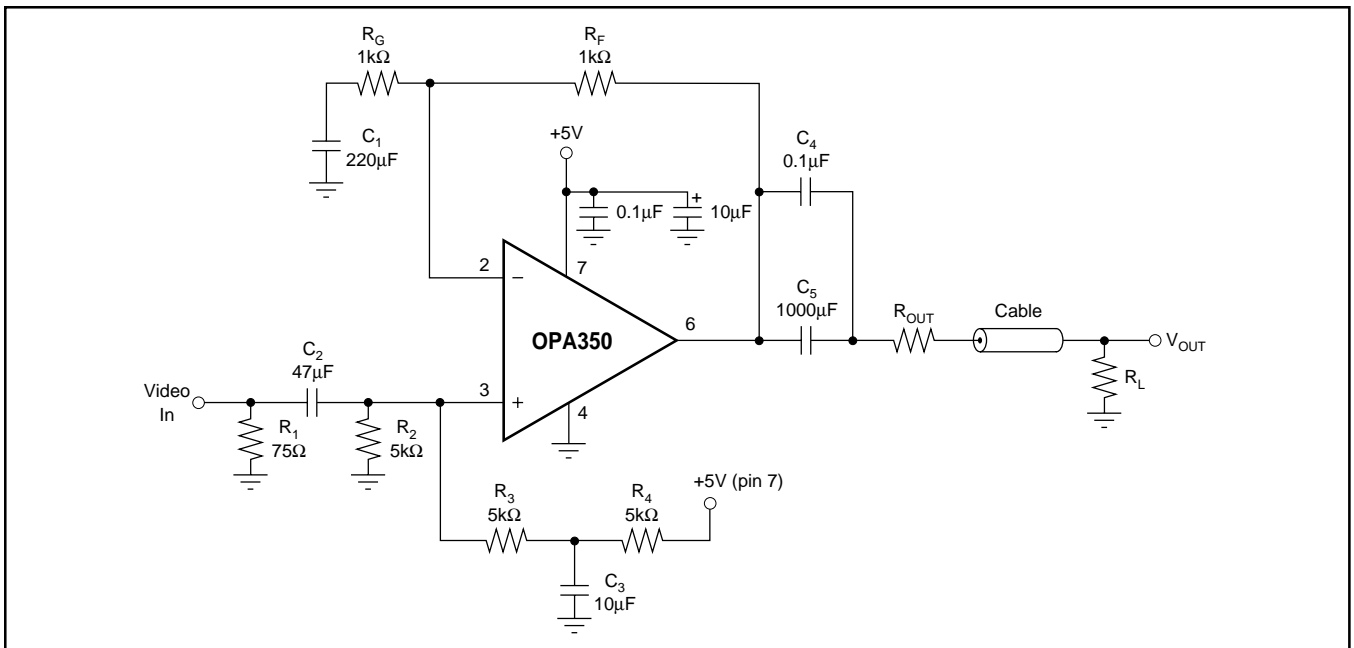

FIGURE 6. Single-Supply Video Line Driver.
NOTES: (1) $V_S = +5V$. (2) $V_{OUT} = 0.25V$ to $2.75V$. (3) NTSC signal generator used. See Figure 6 for test circuit. (4) Output voltage swings are measured between the output and power supply rails. (5) See typical characteristic, "Output Voltage Swing vs Output Current."
Figure 6 shows a circuit for a single supply, $G = 2$ composite video line driver. The synchronized outputs of a composite video line driver extend below ground. As shown, the input to the op amp should be ac-coupled and shifted positively to provide adequate signal swing to account for these negative signals in a single-supply configuration.
The input is terminated with a 75Ω resistor and ac-coupled with a $47\mu F$ capacitor to a voltage divider that provides the dc bias point to the input. In Figure 6, this point is approximately $(V-) + 1.7V$. Setting the optimal bias point requires some understanding of the nature of composite video signals. For best performance, one should be careful to avoid the distortion caused by the transition region of the OPA350's complementary input stage. Refer to the discussion of rail-to-rail input.